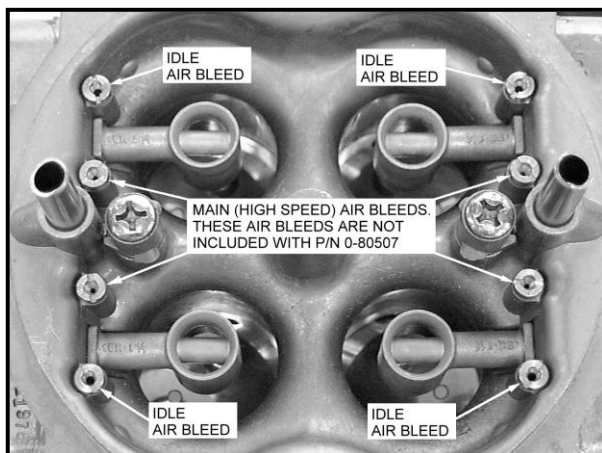

Figure 10
**NOTE:** See Figure 10 for air bleed locations and identification. It is recommended that all jet sizes be documented before any tuning of the air bleeds or main jets is started. Below is a chart for recording the jet and air bleed sizes for your 4150 HP Pro-Series carburetor as shipped from Holley. Should you adjust the air bleed size or main jet size, this chart will allow the tuner to return the carburetor to the original jetting. Please place this information in a safe place along with any other documentation for your carburetor.